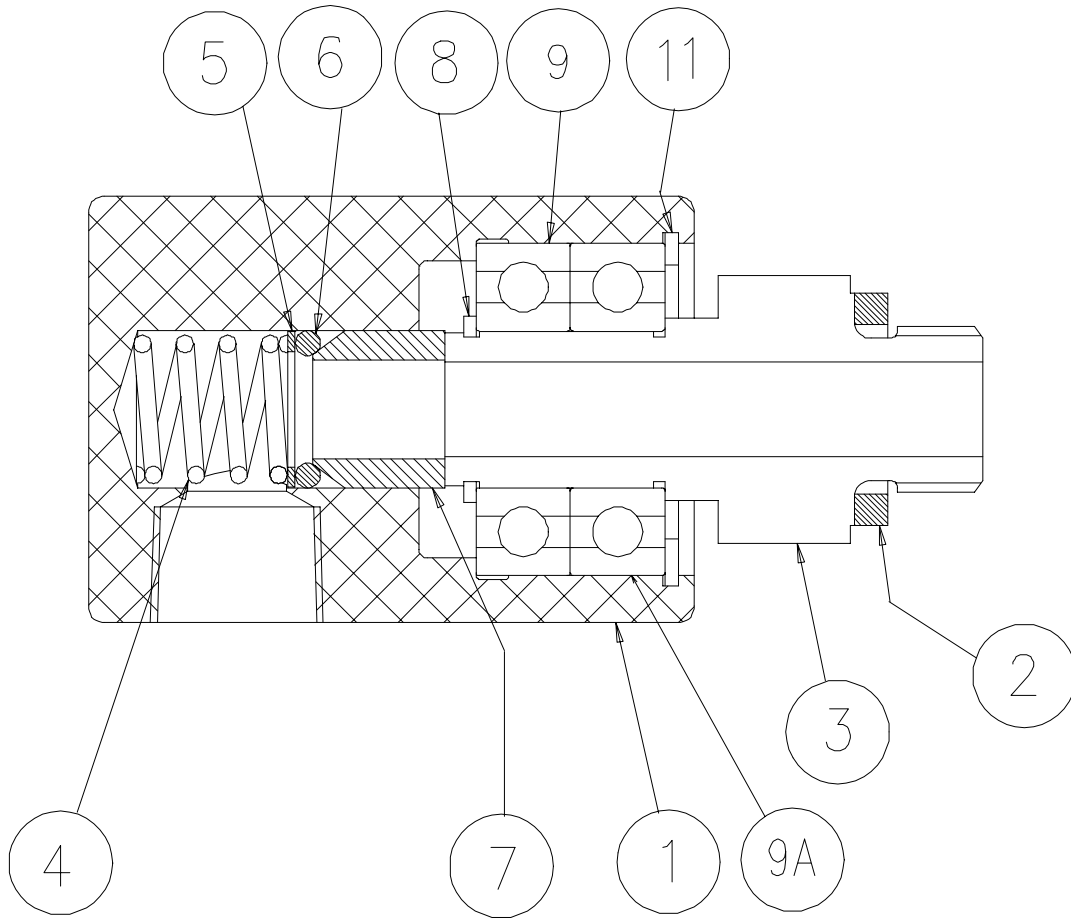

FIGURE 1
- 1.2.1 The sealing between the stationary housing (1) of the rotorseal and the carbon seal ring (7), occurs at the lapped seal face of the rotating shaft (3). A light coil spring (4) keeps the carbon seal ring in place assuring a positive seal between the components. See Figure 1.
4.2.4 Refer to Figure 1 for bearing arrangement. Remove shaft (3) and bearing (9) and/or (9A) from the housing (1) by holding the hex portion of the shaft in a vise while striking the housing gently with a light mallet. Rotate the housing while striking to reduce the tendency of binding the bearing in the housing.
4.4.1 Assemble the spring (4), spring stop (5), "O" ring (6), and seal (7) as shown in Figure 1, making sure the "O" ring seats properly on the chamfered surface of the seal.
4.4.1.2 Note the proper orientation of the seal or shield if applicable and assemble bearings (9) and/or (9A) onto the shaft (3). Refer to Figure 1. On the older styles of B3 and C2 rotorseals, the collar (10) must be on the shaft before the bearing is pressed on. Replace the shaft external snap ring (8) into the shaft groove to lock the bearing into place.